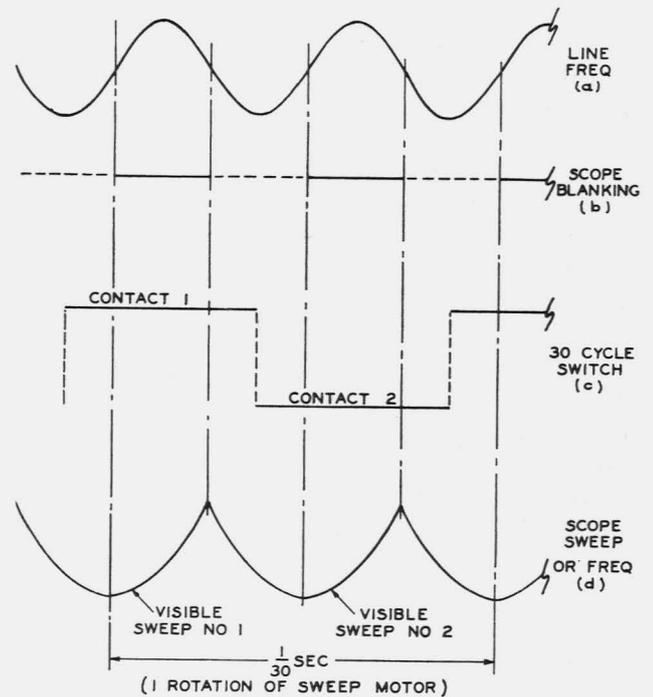

Fig. 7 - Phase Relations in Test Set
- (2) As an aid to understanding the phase relations which have been set up, refer to Fig. 7. The phase of the
(2) As an aid to understanding the phase relationships which have been set up, refer to Fig. 7(a), (b) and (c).